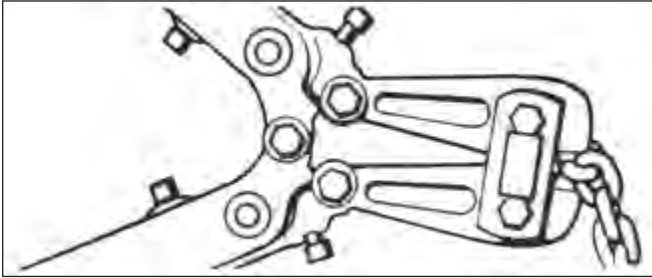

Figure 22. Cutting Chain with a Bolt Cutter
2. Use a bolt cutter (Figure 22) similar to the H.K. Porter No. 0590MTC with special cutter jaws for cutting hardened chain (1" (25.4 mm) long cutting edge).